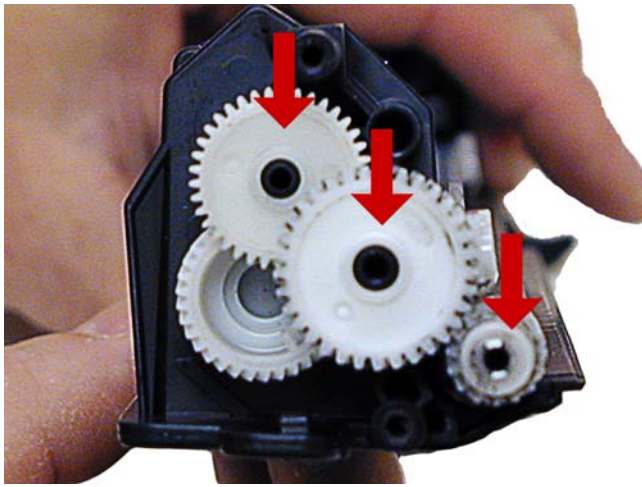

Figure 18
14) Remove the gears from the hopper as shown, Leave the large auger gear in place. See **Figures 18 & 19**